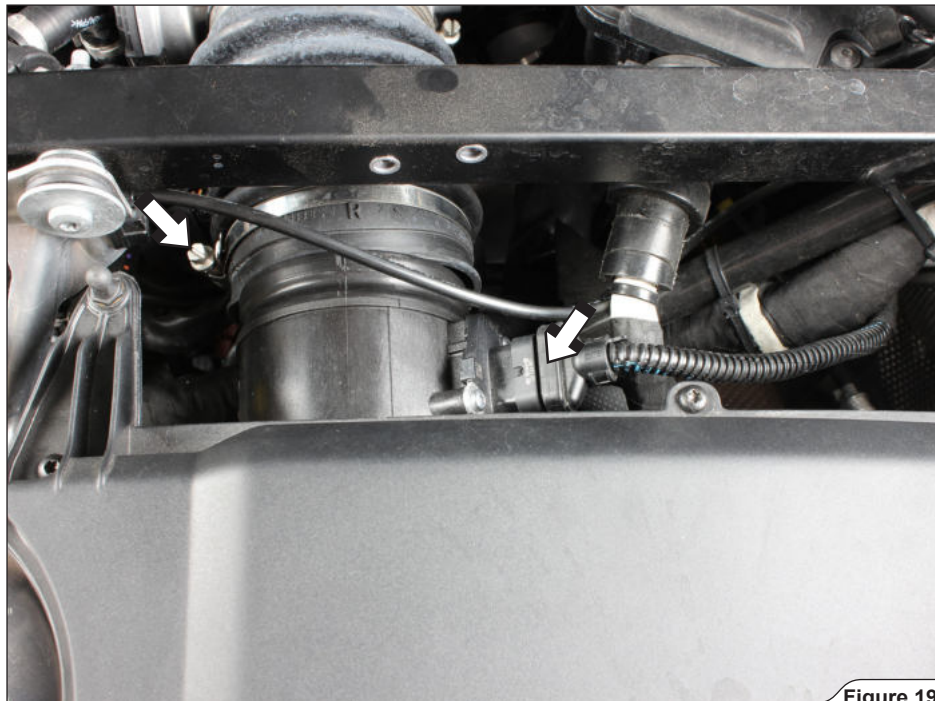

Figure 19
13. Unscrew the marked tape clamps, disconnect the air mass meter connectors on both sides of the vehicle and carefully remove the intake rubber tubes off the air boxes (**Figure 19**).